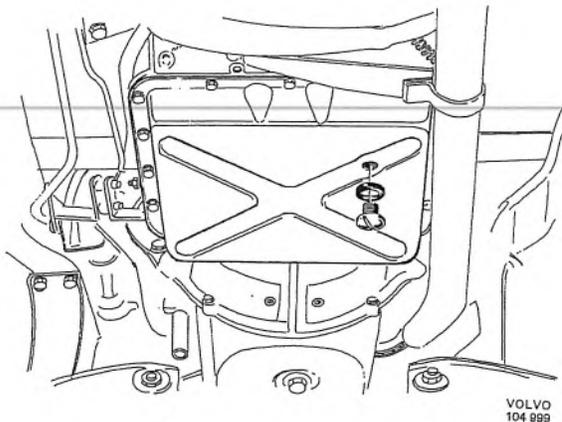

Fig. 4-68. Oil drain plug
1. Jack up and place props under the vehicle. Drain off the oil into a vessel which is absolutely clean. See Fig. 4-68.
2. Drain the oil into a completely clean vessel, see Fig. 4-68. NOTE. The oil may be very hot and can scald if contact is made with the skin.